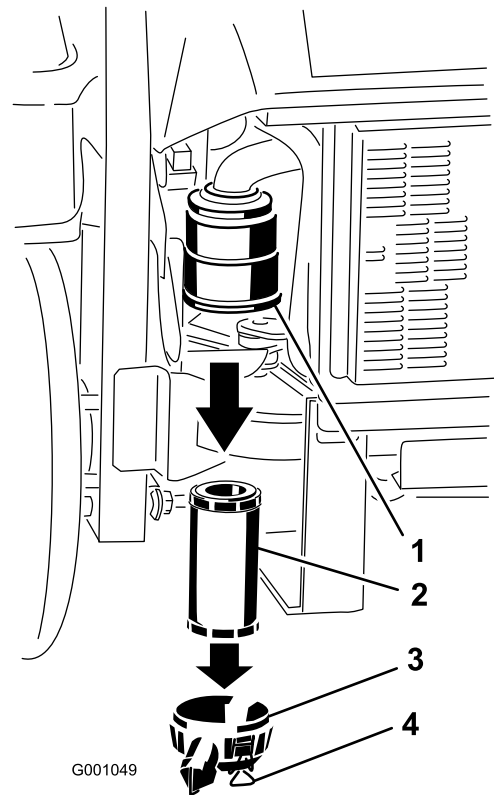

Figure 54
3. Release the latches on the air cleaner and pull the air-cleaner cover off the air-cleaner body (Figure 54).
5. Gently slide the filter out of the air-cleaner body (Figure 54).